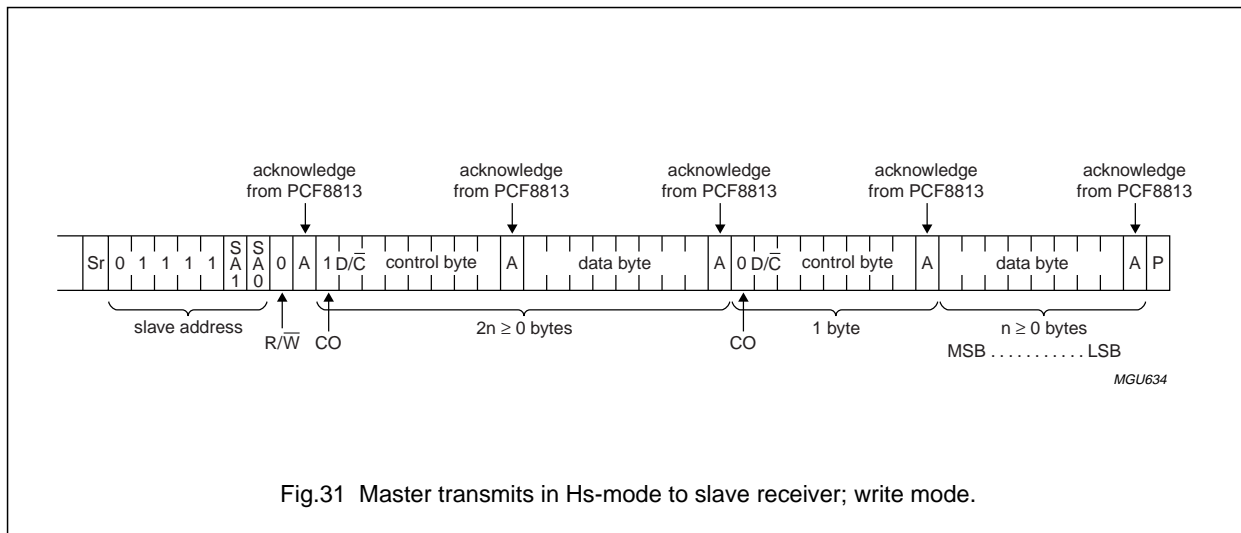

Fig.31 Master transmits in Hs-mode to slave receiver; write mode.
After acknowledgement of a write (W) cycle, one or more command words follow which define the status of the addressed slaves. A command word consists of a control byte, which defines CO and D/\bar{C} , plus a data byte (see Fig.31 and Table 4).